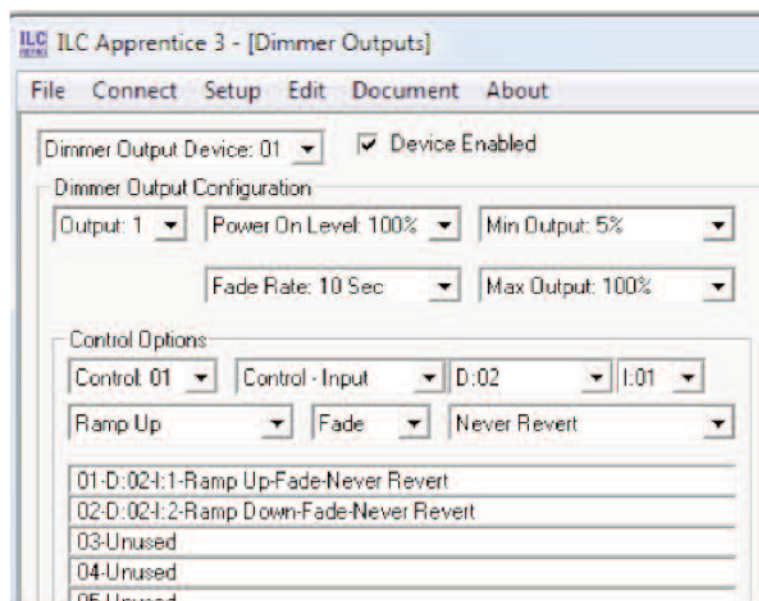

Figure 1 – Dimmer Output
- Enable the dimmer output for the device used. See Figure 1.